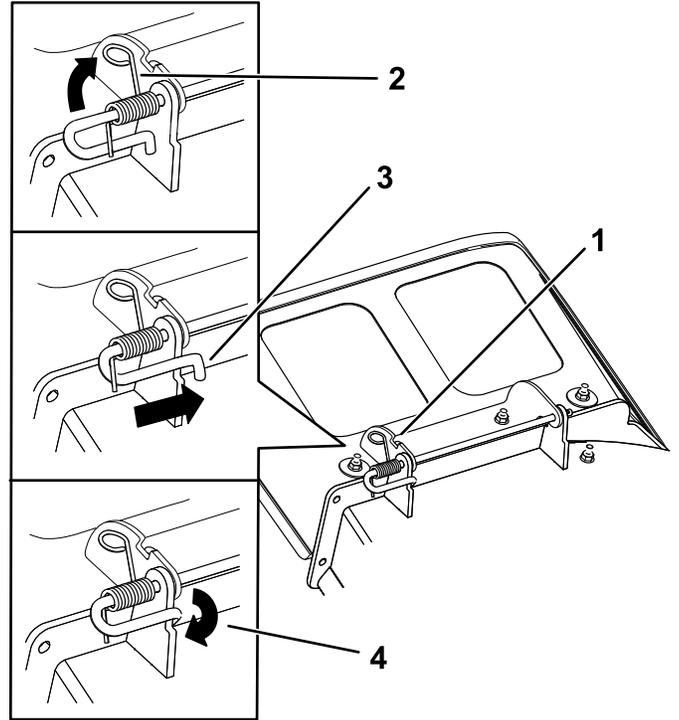

Figure 38
3. Position the new discharge deflector with the bracket ends between the welded brackets on the deck as shown in Figure 38.
5. Position the spring on the rod as shown in Figure 38 so that the shorter spring end comes from under the rod before the bend and going over the rod as it returns from the bend.
6. Lift the loop end of the spring and place it into the notch on the deflector bracket (Figure 38).
7. Secure the rod and spring assembly by twisting it so that the short end of the rod is behind the front bracket welded to the deck (Figure 38).